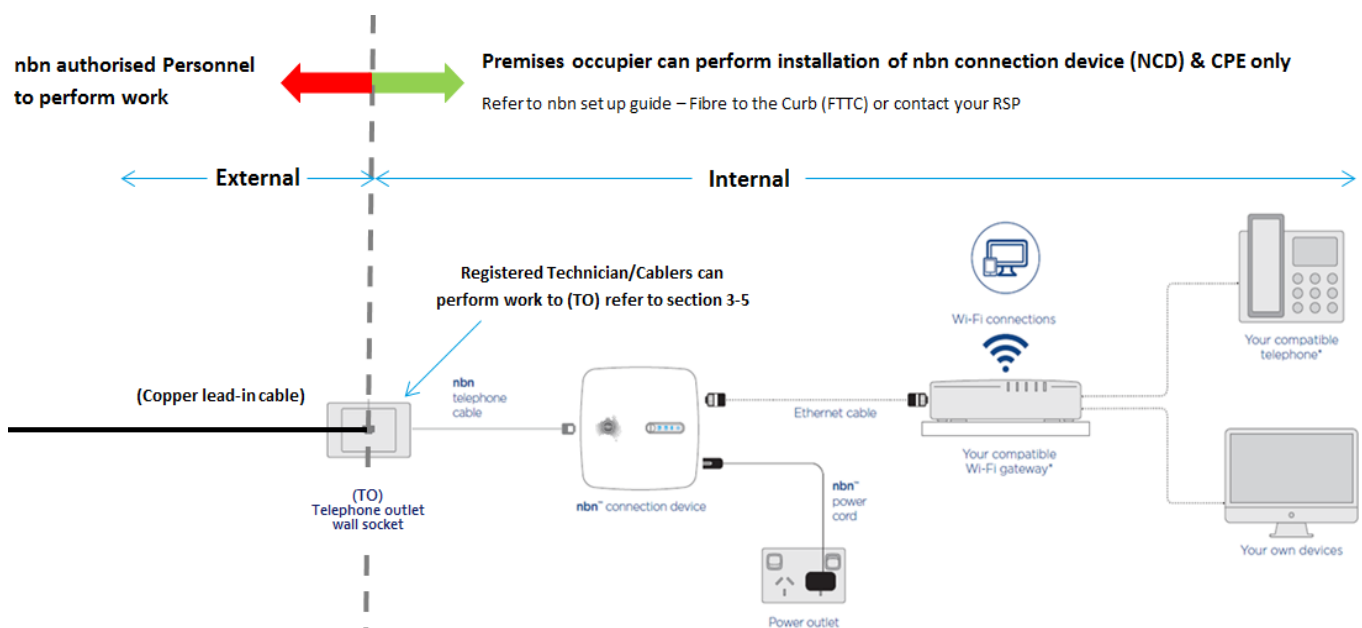

Figure 15 FTTC Network and NBP
- Replace, relocate or otherwise alter within a premise for renovation, demolition or relocation of the building/premises subject to the boundaries identified in **Figure 15** below, and with reference to Section 3 for details on the Network Boundary Point (NBP)